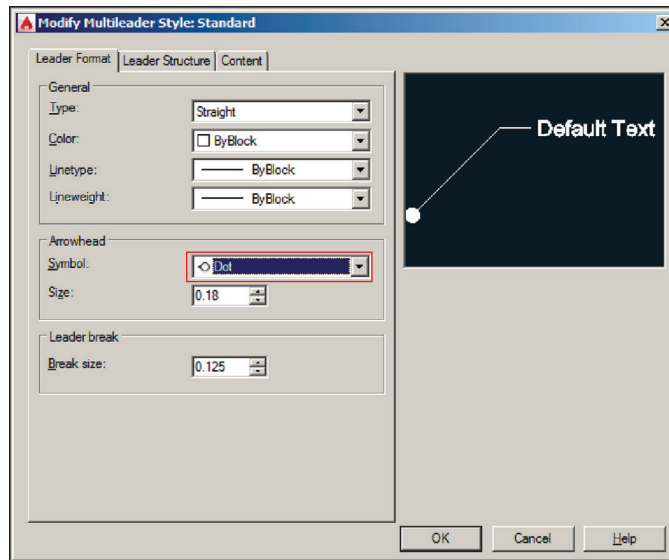

FIGURE 11.20 Editing a multileader style
3. On the Leader Format tab of the Modify Multileader Style: Standard dialog box, choose Dot from the Symbol drop-down in the Arrowhead section (see Figure 11.20). Click **OK** and **Close**, and the leader object automatically has a dot on its end.